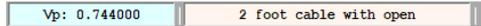

Figure 5.14 The new name of the trace after being changed in the dialog.
3. Enter the new name for the trace into the dialog and click the *SET* button. You will be given a chance to confirm or reject the name change and overwrite the saved trace. If you click *Yes*, the new trace name will be displayed (Figure 5.14) and the filename for the trace will be changed to the new name.